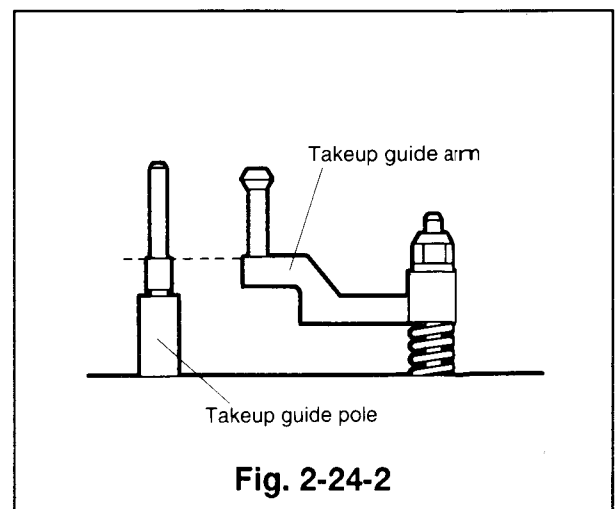

Fig. 2-24-2
- ① Hook one end of the takeup guide spring with the takeup guide arm, fix the takeup guide spring to the shaft.
- ② Apply grease (PG-641) [859D055O30] around the top of the new takeup guide arm (the surface which touches with the nut). Fix the takeup guide arm to the shaft, and secure it with the nut. (Set the takeup guide arm to the height shown in Fig. 2-24-2 temporarily.)